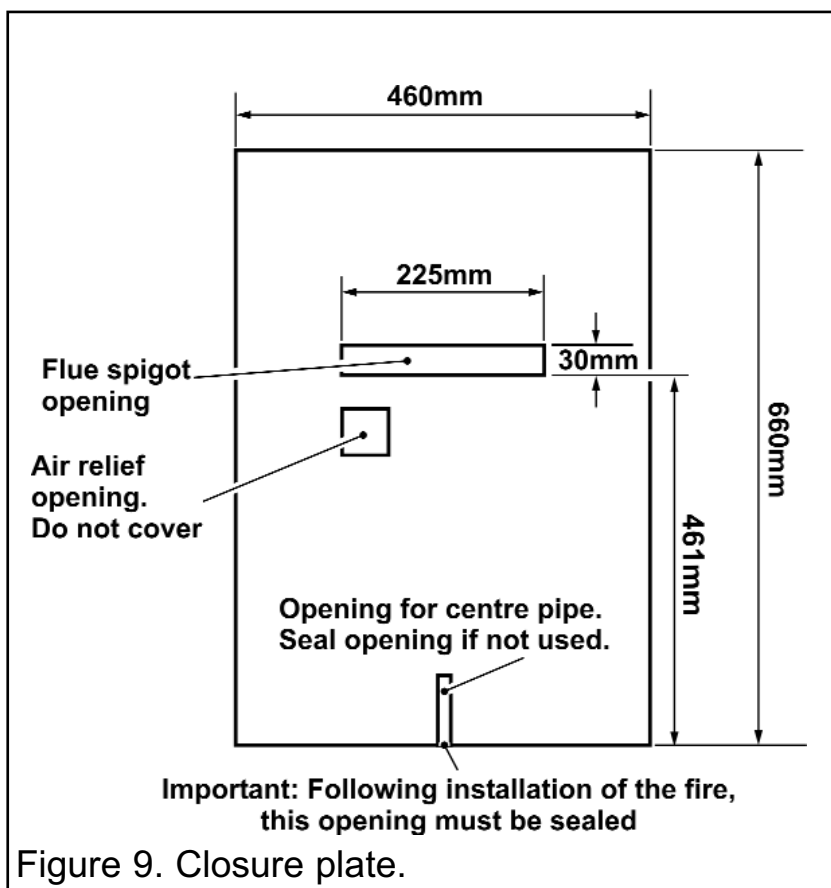

Figure 9. Closure plate.
- The spigot opening in the closure plate has two 'flange' sections. Fold along the perforated line of **Flange 1**. **Flange 2** is to be left as supplied. **The closure plate has an opening at the bottom for a central gas feed pipe. The gap between the pipe and this opening should be sealed with tape after connection. If a central feed pipe is not required the opening should be completely sealed with tape.** The dimensions of the closure plate will be as in figure 9.